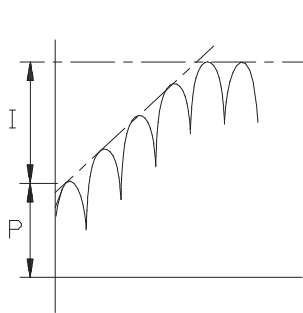

Fig. 1
- Optimal adjustment see fig. 1